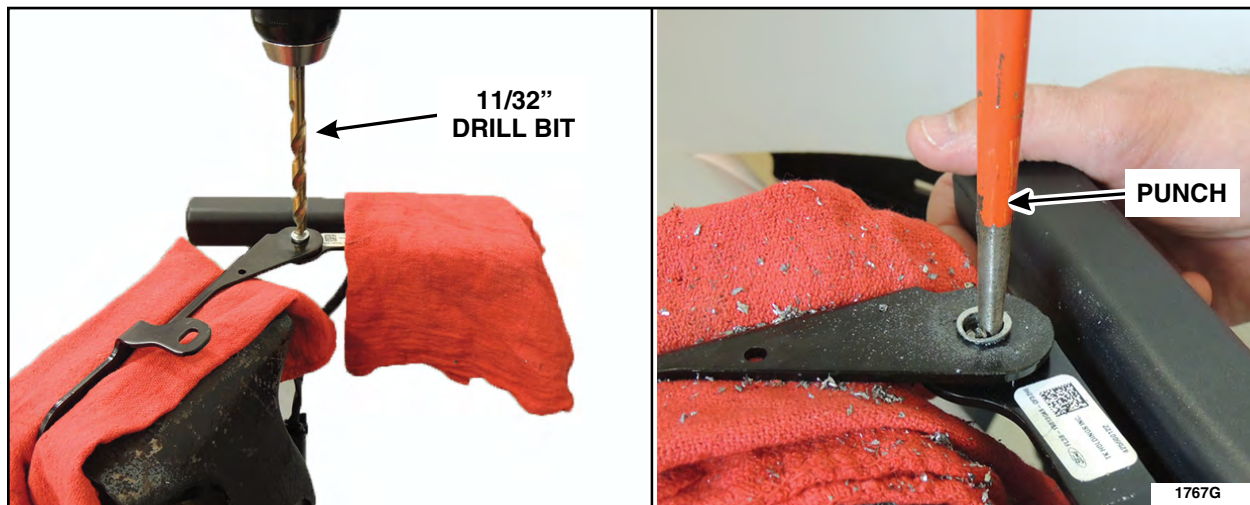

FIGURE 6
- Using a 11/32" drill bit, drill out the rivet head. If the drill bit begins to contact the anchor bracket, stop drilling and use a punch to separate the remaining portion of the rivet from the anchor bracket. See Figure 6.
NOTE: It is important to have an assistant hold the inflatable seatbelt buckle assembly during the drilling procedure to catch the assembly once separated to prevent dropping and damaging the inflatable seatbelt buckle. See Figure 6.